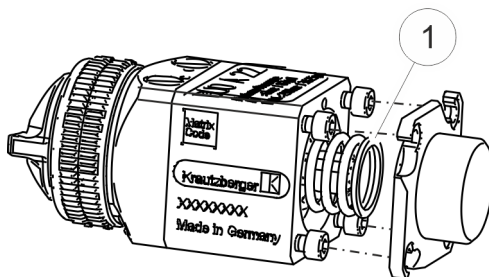

Fig. 21: Removing the pressure spring
5. ➡ Remove the pressure spring ( Fig. 21/1).